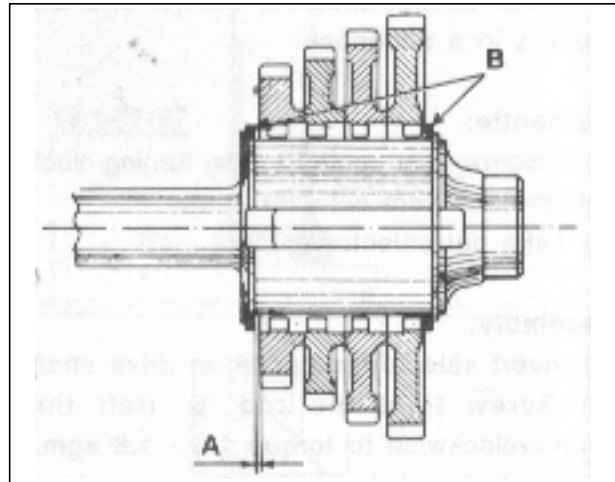

Fig. 154-Gear assy. - cut section view
- (c) Check axial play with feeler gauge G-2107025. (Fig.154)